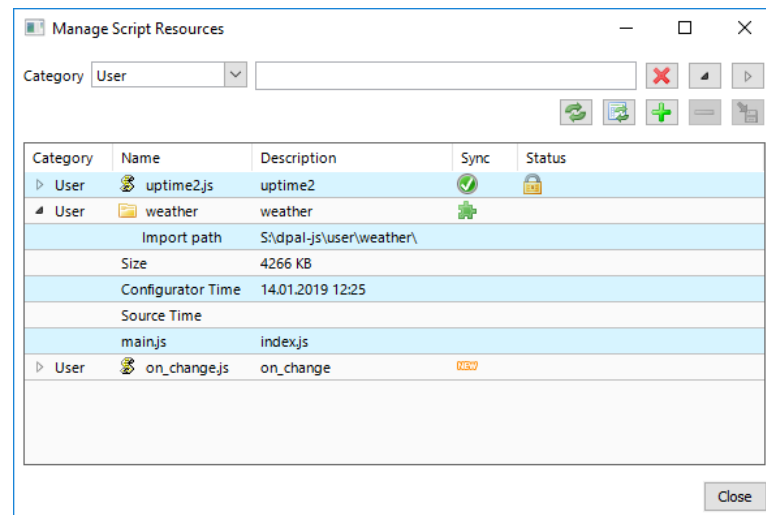

Figure 223: Manage script resources dialog
- **Script folder:** This represents a folder that contains a collection of files which constitutes the script resource. Similar to an npm module a main file has to be appointed. This can be implicit by naming convention (index.js or foldername.js) or explicit by looking into the package.json. The script management dialog reveals the main.js file in the expanded details as shown in Figure 223.